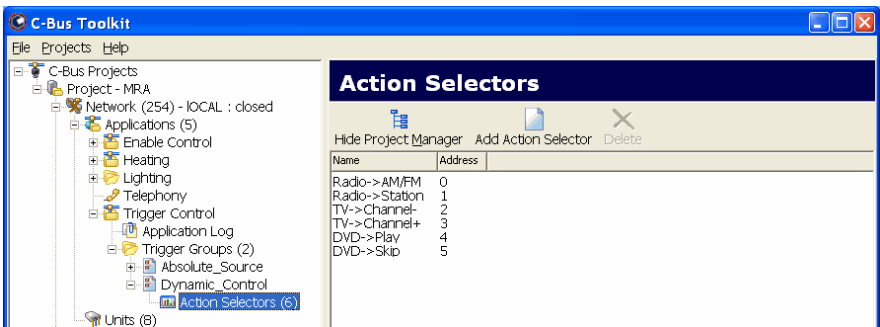

Figure 22 – Selectors used for the dynamic control functions
- 5) Two dynamic control buttons can be used on a wall switch to perform different functions depending on which source is selected. If you use dynamic control buttons you must create a Group Address in the Trigger Control Application and a selector for each function. These selectors are used when configuring the Matrix Switcher with the MARPA software. A Trigger Control Group Address with selectors used in the example MRA system is shown in Figure 22.